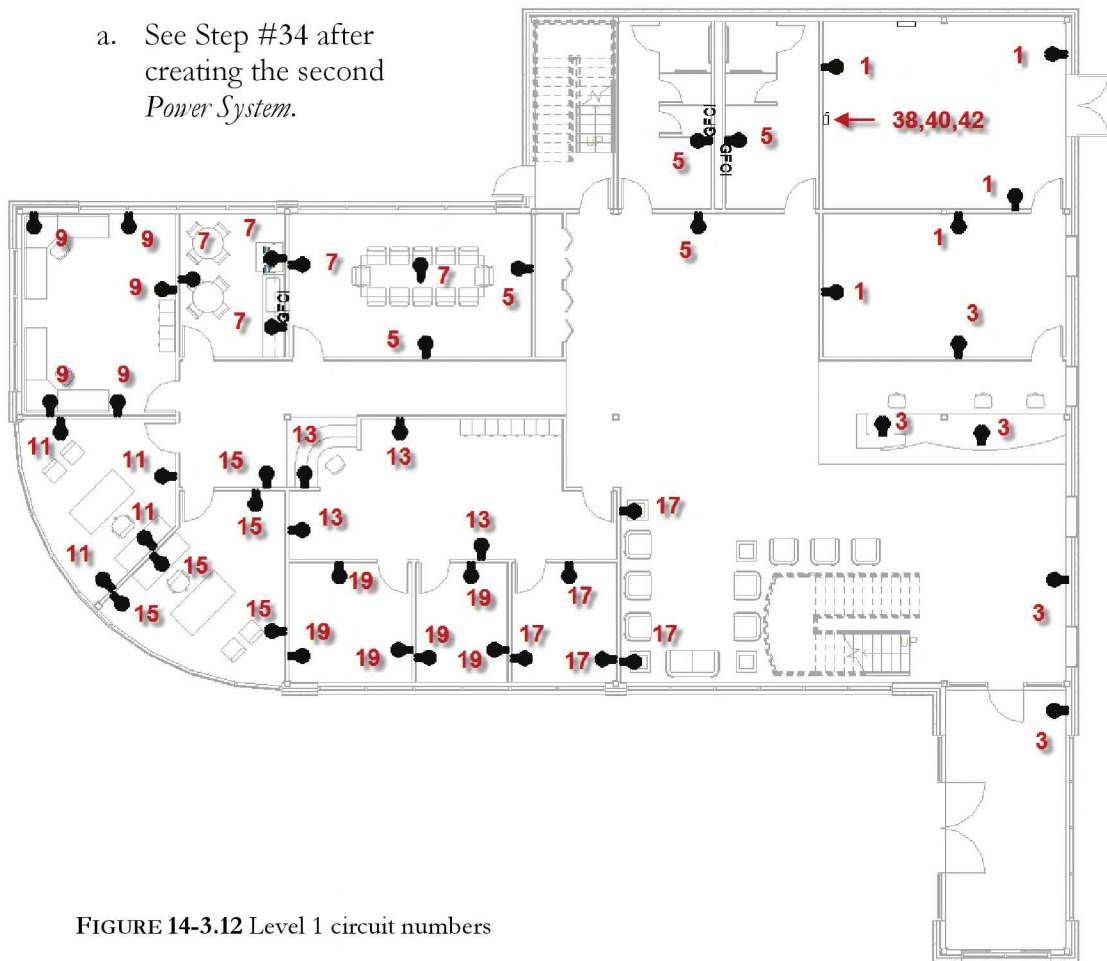

FIGURE 14-3.12 Level 1 circuit numbers
32. Following the previous step, create circuits in the order of the numbers shown; see Figures 14-3.12 and 14-3.13.